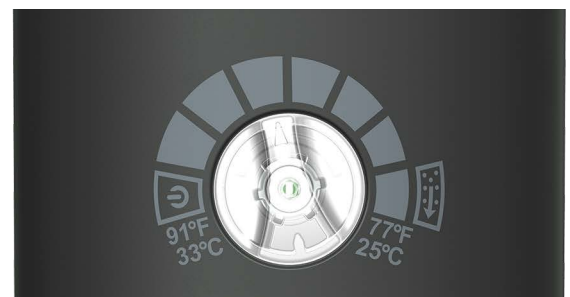

Figure 12
- Adjustable switch off temperature (see **Figure 12** left side view). The desired switch off temperature can be selected between 20-70 °C (68-158 °F) using the selector knob. The pump stops when it reaches the set temperature (switches to standby mode). When the fluid cools back with 3 °C (5.4 °F) under the switch off temperature, the pump restarts.
- Adjustable restart temperature (see **Figure 12** right side view). The factory preset temperature limit is around 36 °C (97 °F) as default, reaching this value the pump stops and switches to standby mode. The desired restart temperature can be selected between 33-25 °C (91-77 °F) using the selector knob. When the fluid cools back to the set temperature, the pump restarts.